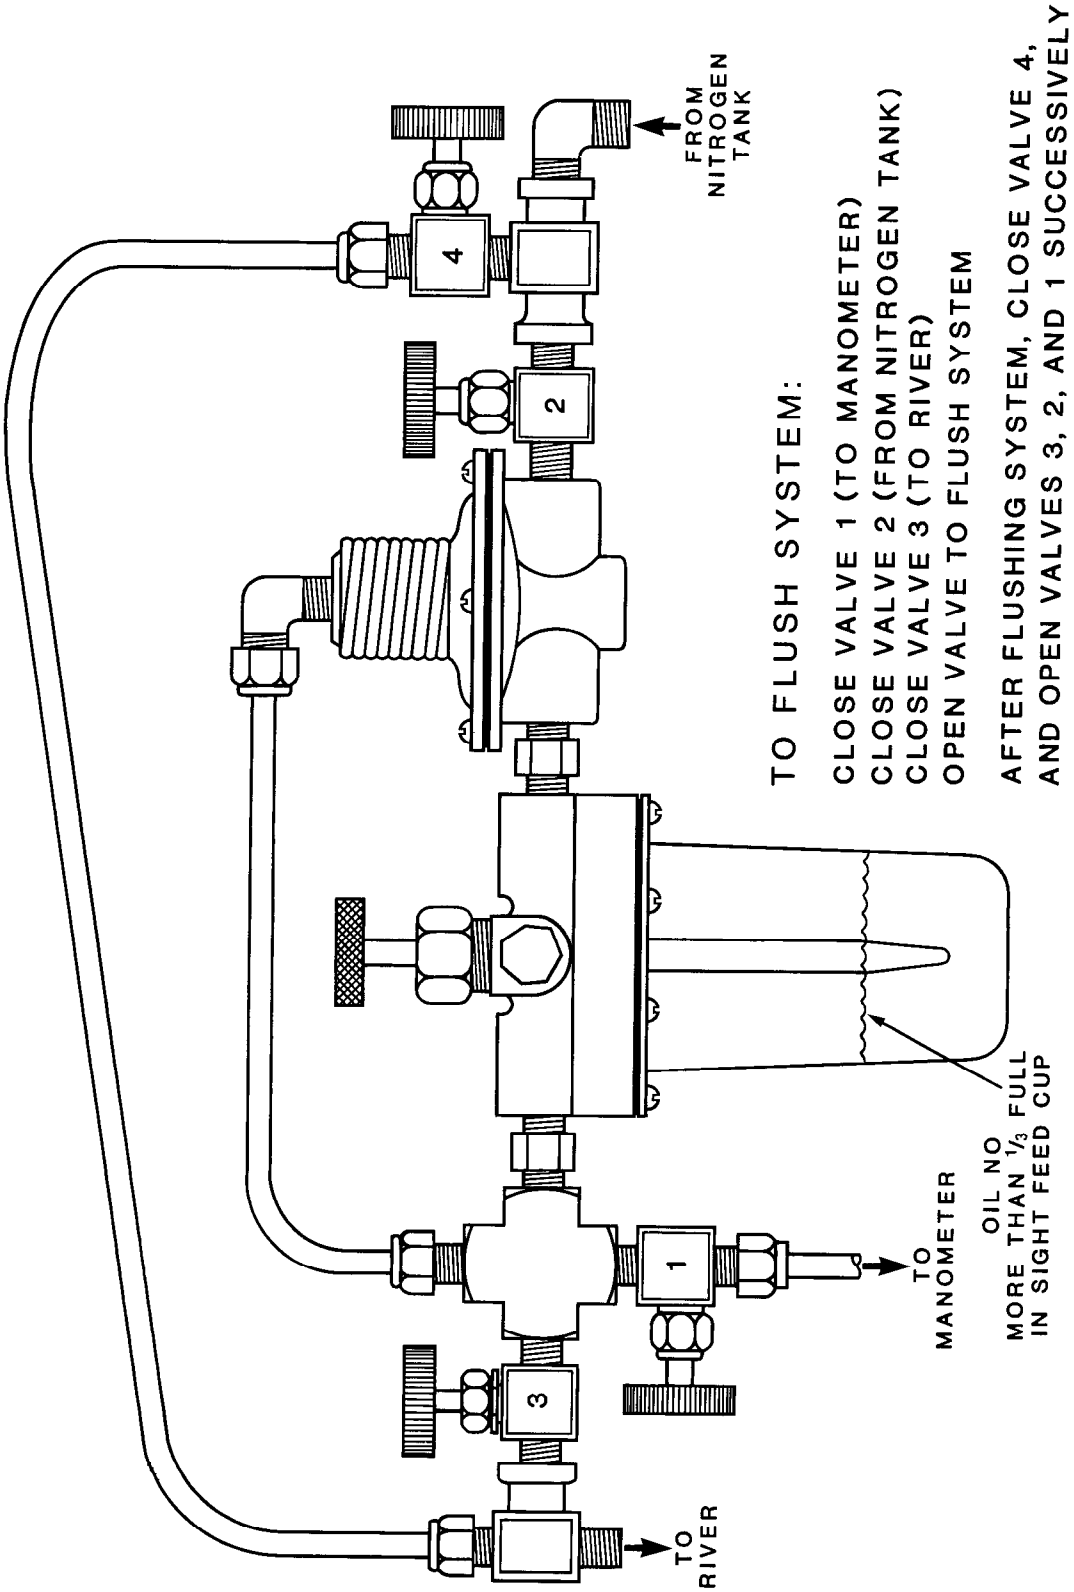

Figure 21.--Procedure for purging the orifice line.
- e. To flush orifice, follow details in figure 21.
- b. Painting at low stages is almost always due to an obstruction in the gas line or at the orifice. (See figure 21 for procedure to flush gas line.) If the orifice is horizontal, the painting may be stopped by pointing the orifice down. Float-switch jewels that are faulty or too tight or float-switch contacts that are set too closely may cause painting. Welding of the contact points will cause the recorder to paint, but welding also indicates other electrical difficulties.